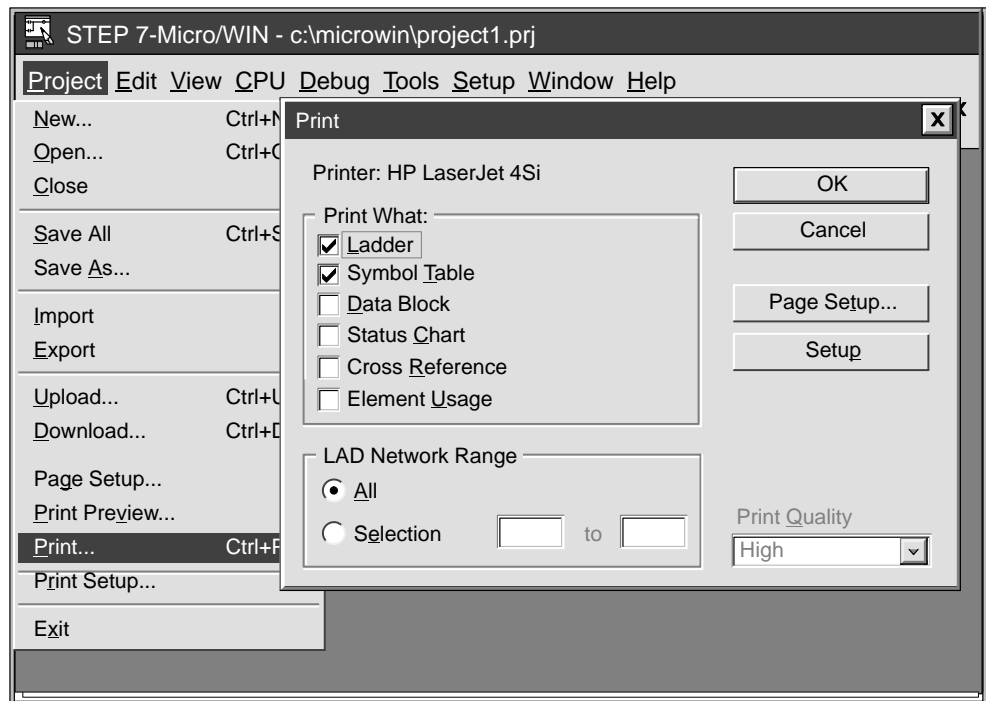

Figure 5-24 Print Dialog Box
- Select **Project ► Print...** to print your program. Select what you want to print, then click the “OK” button. See Figure 5-24.
1. Select **Project ► Print....** The Print dialog box shown in Figure 5-24 appears.